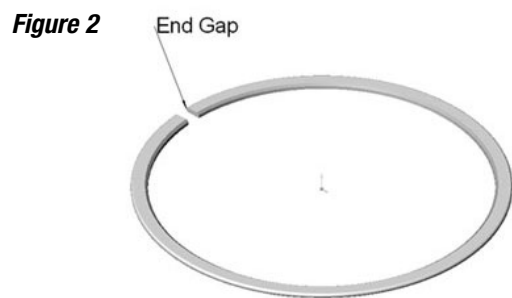

Figure 2
3. Measure ring gap with a feeler gauge or equivalent measuring device. (Figure 2)